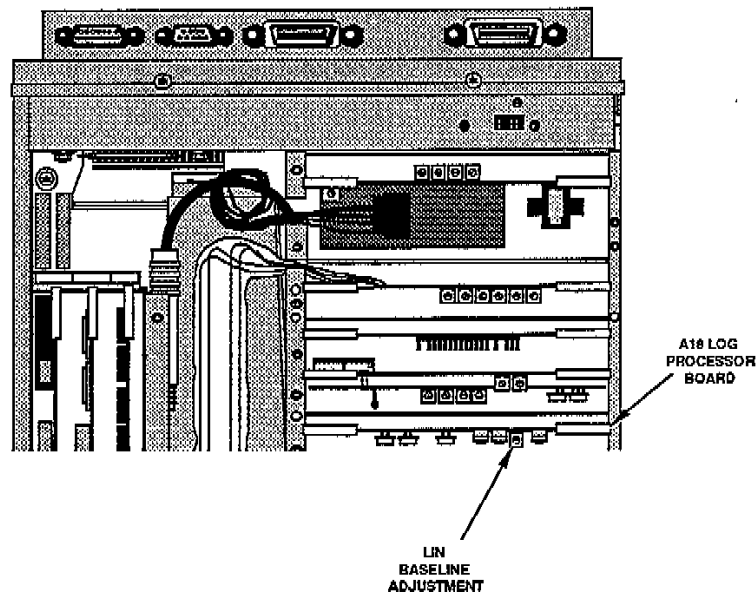

Figure 3-27. Lin Baseline Adjustment.
4. Adjust the LIN offset adjustment on the Log Processor board (see Figure 3-27) by first rotating the adjustment counterclockwise until the baseline moves up from the bottom graticule line. Then, reverse rotation (clockwise) and adjust the baseline to a point where it reaches the bottom graticule line.